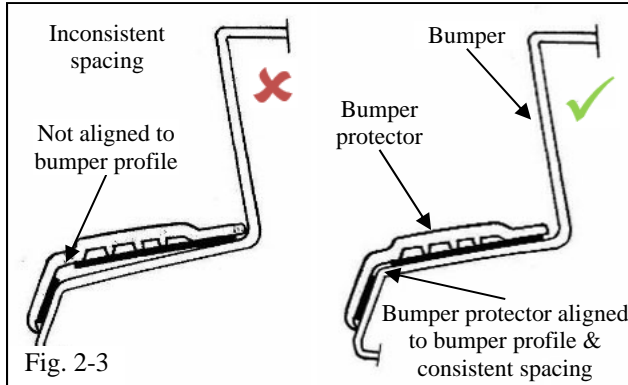

Fig. 2-3
**⛔ STOP NOTE:** Ensure that the bumper protector is properly aligned with the bumper profile and consistent in the corners (Fig. 2-3).